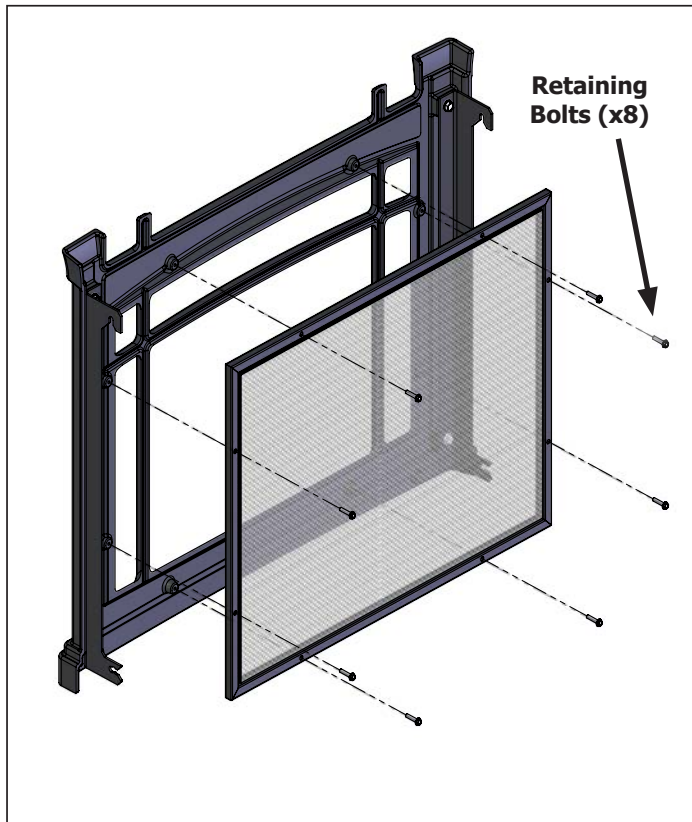

Figure 51. Safety Screen Removal - Front
**Step 4:** If replacing the side screen skip to step 5. If replacing the front screen remove the eight (8) retaining bolts (Figure 51) using a 1/4" socket and remove the damaged screen while noting the orientation. Install the new screen (50-3243) by simply re-installing the retaining bolts. Re-install the cast door and top to finish.